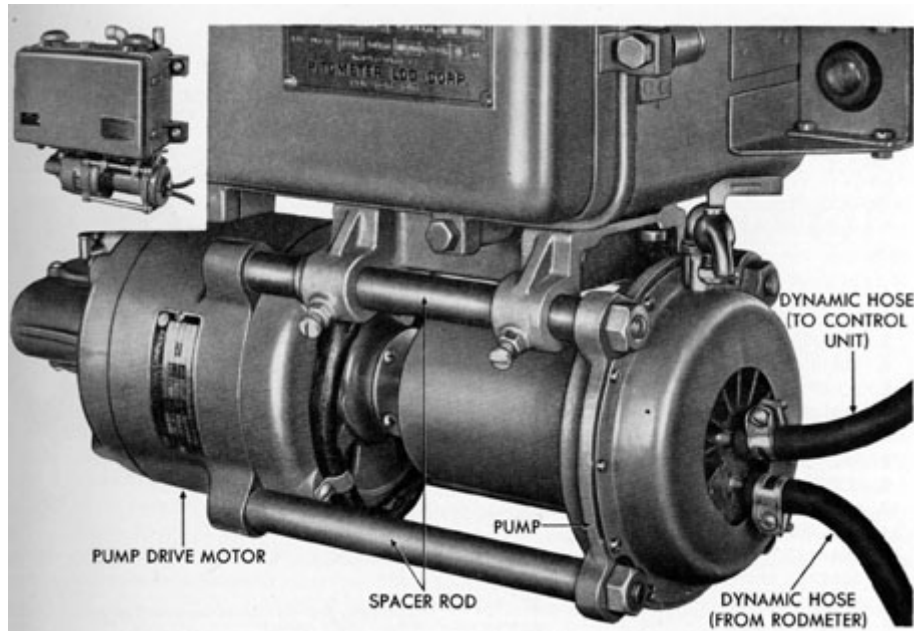

Figure 5-5. Pump installed.
**5D3. Removing the pump.** (See Figure 5-5.) Have the rodmeter in its secured position with the sea valve closed. Disconnect the two lengths of hose from the pump by loosening the two hose clamps (one on each hose) that secure the hose to the nipples on the pump, and remove the hose and clamps. Remove the four nuts that secure the pump to the spacer (mounting) rods, and remove the